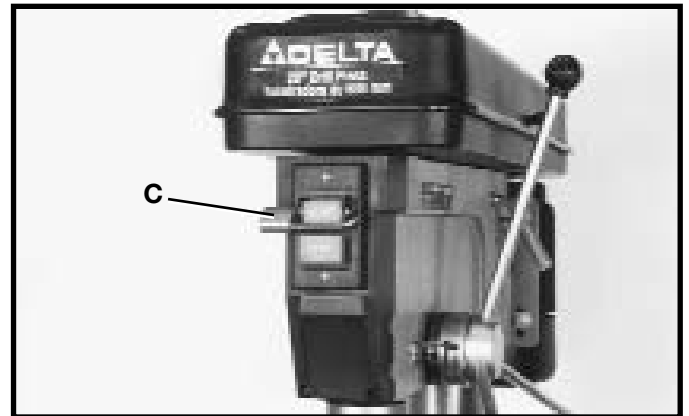

Fig. 24
IMPORTANT: When the machine is not in use, the switch should be locked in the “OFF” position using a padlock (C) Fig. 24, (with 3/16 diameter shackle) through the two holes in the switch plate, as shown in Fig. 24. NOTE: Padlock shown is available as accessory Model 50-325.